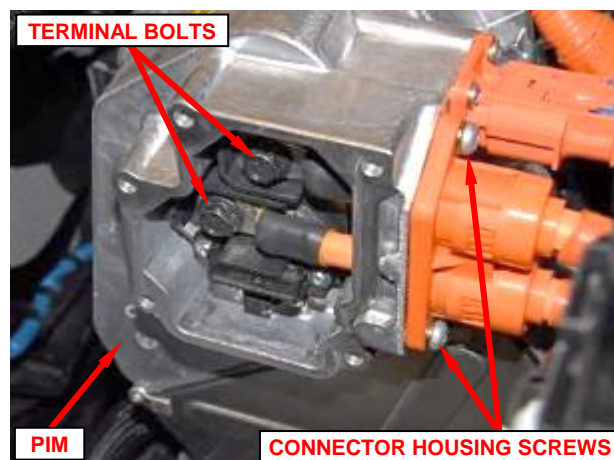

Figure 41 – High Voltage Battery Cables
19. Install the high voltage battery cable terminal bolts and tighten to 25 N·m (18 Ft. Lbs.) (Figure 41).